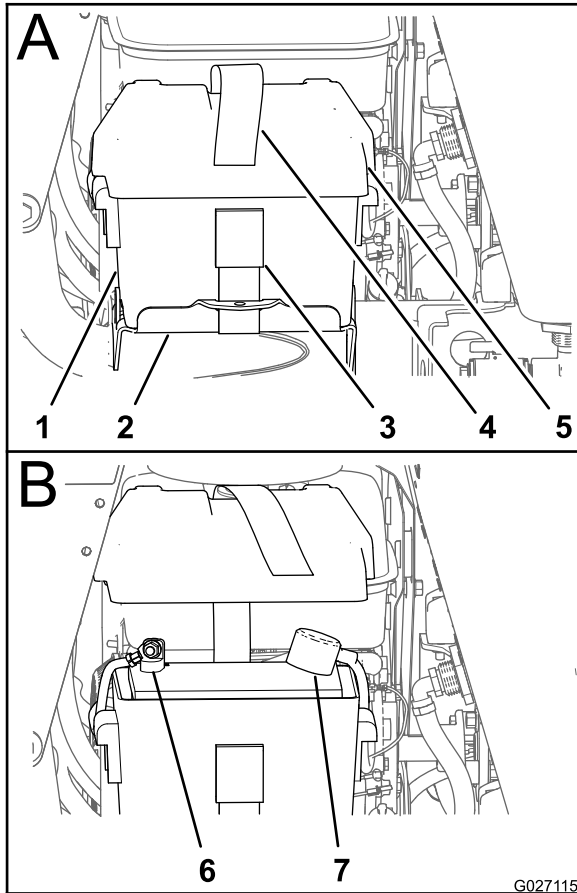

Figure 3
1. Remove the battery cover from the battery box (Figure 3).
2. Install the positive-battery cable to the positive (+) battery terminal with a flanged bolt and flanged nut (Figure 3).
3. Install the negative-battery cable to the negative (-) battery terminal with a flanged bolt and flanged nut (Figure 3).
4. Install the cover on the battery box and secure the cover and box to the battery tray with the battery strap (Figure 3).